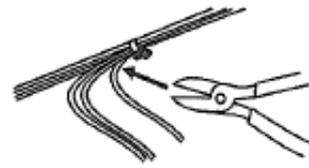

FIGURE 6
9. Cut off the green ground wire near the harness. See figure 6.